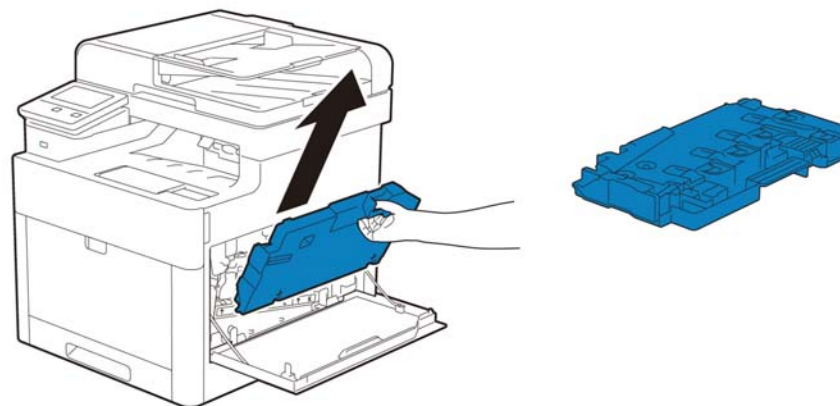

Figure 1 Remove the toner waste box assembly
1. Open the waste box cover on the right side, press the tab and remove the waste toner assembly, Figure 1.
3. Remove the items that follow, Figure 1: